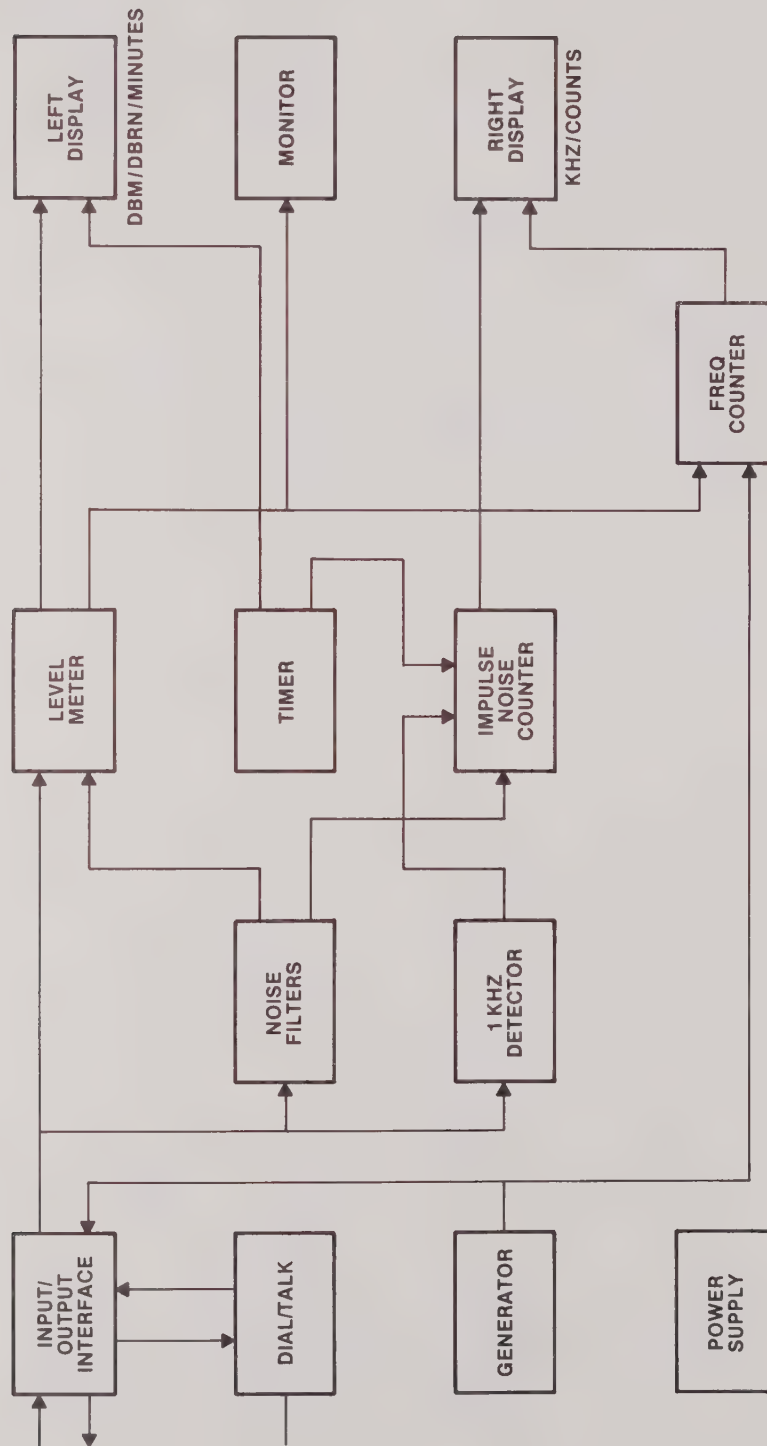

Figure 12. Model 43-01 Block Diagram
11.2 Refer to Figure 12 for an overall block diagram of the Model 43-01.